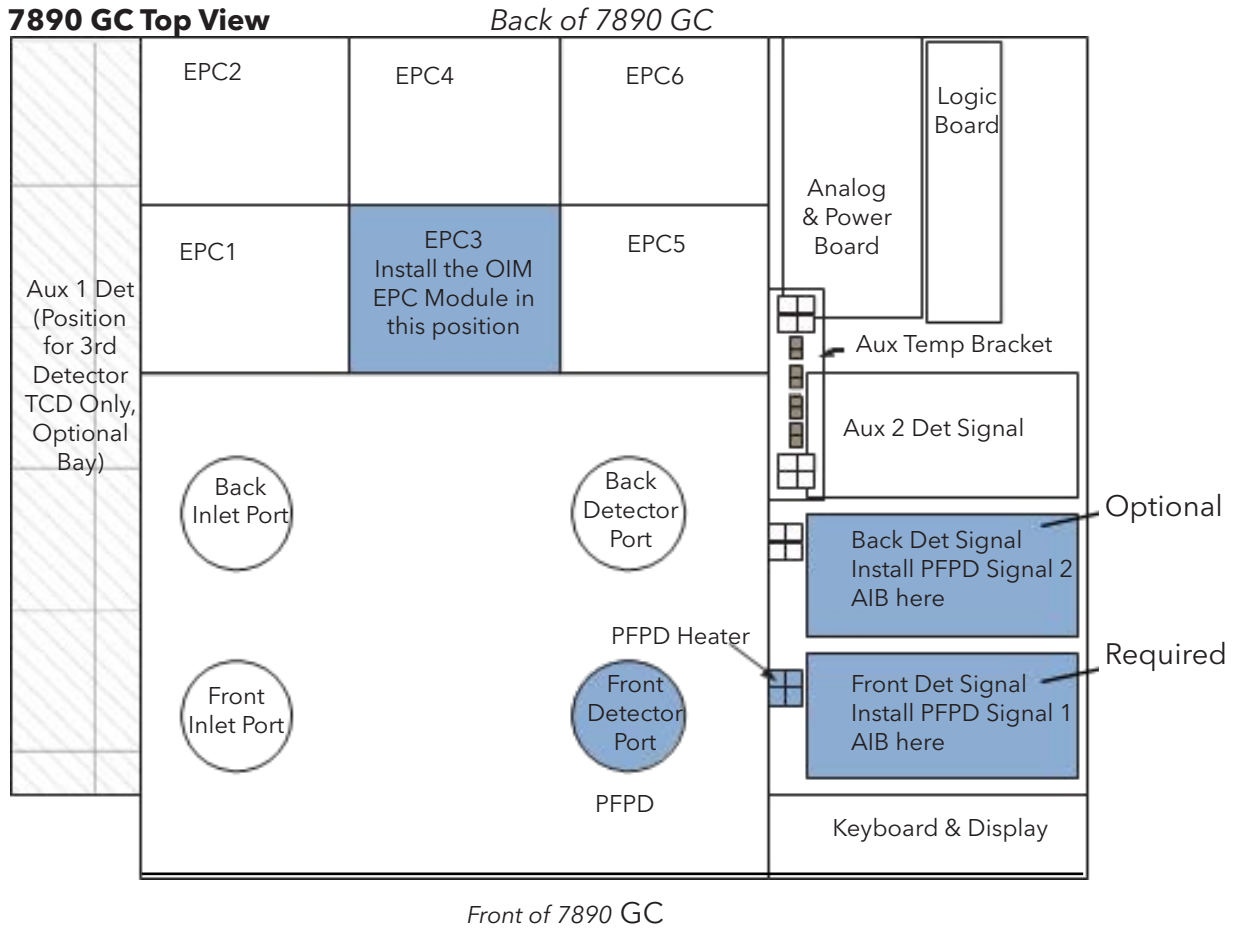
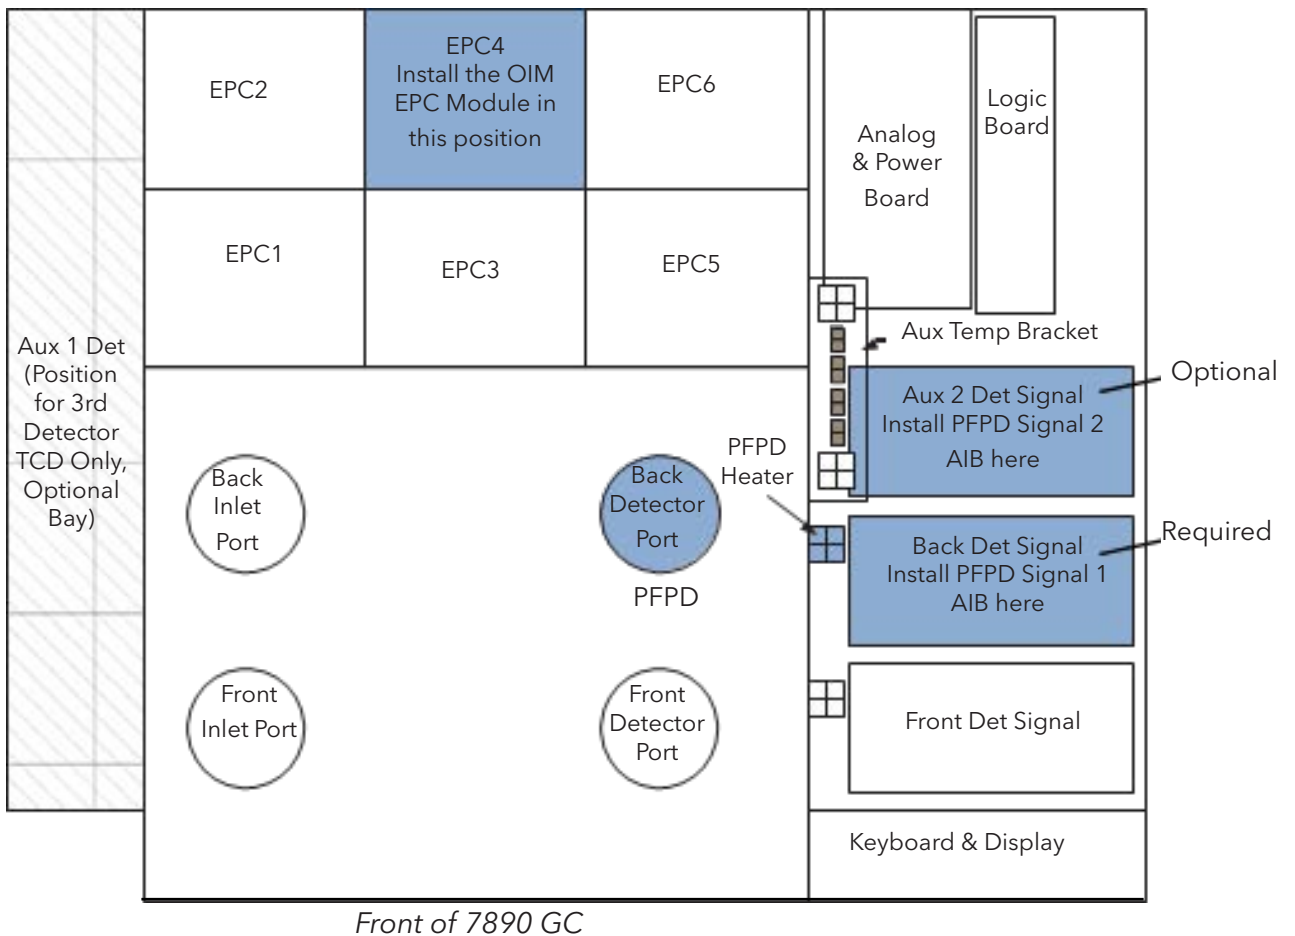

Figure 3.19. Suggested Location for PFPD Components Using the Front Detector Position
Figure 3.20. Suggested Location for PFPD Components Using the Back Detector Position.
2. Select the appropriate detector port and flow module position; refer to Figure 3.19 for the normal location or Figure 3.20 for an alternate location.
b. Locate the correct mounting slot for the EPC module (Figures 3.19 and 3.22).
6. Install the AIB board(s) per the Agilent instructions (see Figure 3.19 for placement).
NOTE: The following configuration is for a PFPD installed in the front detector position (as shown in Figure 3.19).
1. Determine where the AIB board(s) was installed using Figure 3.19.